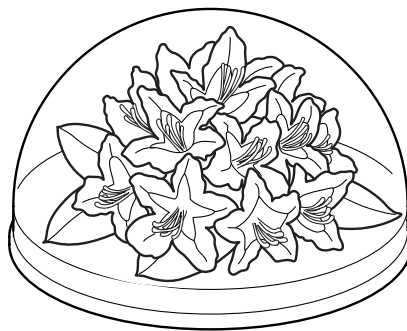

Fig. 2
- 4 Fig. 2 shows a polyester paperweight.